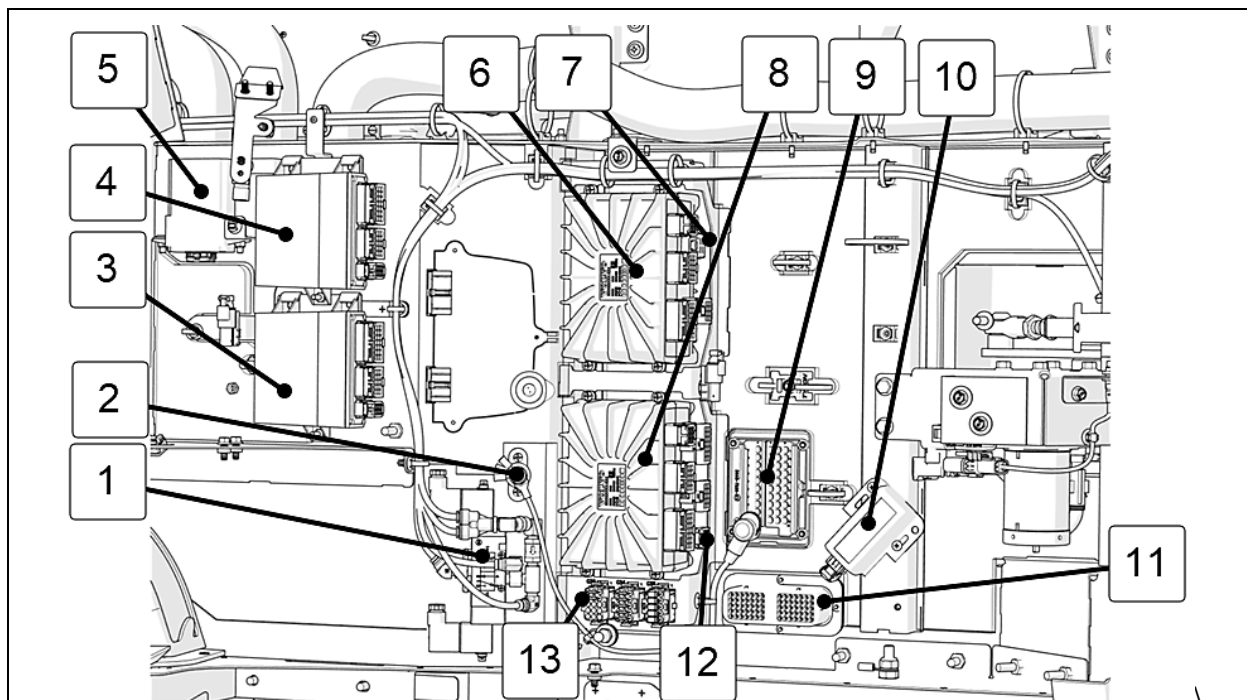

FIGURE 6: DASHBOARD CONTROL PANEL - H3 SERIES SHOWN
AE47 (item 12 Figure 6) is located behind AE48 (item 8 Figure 6)